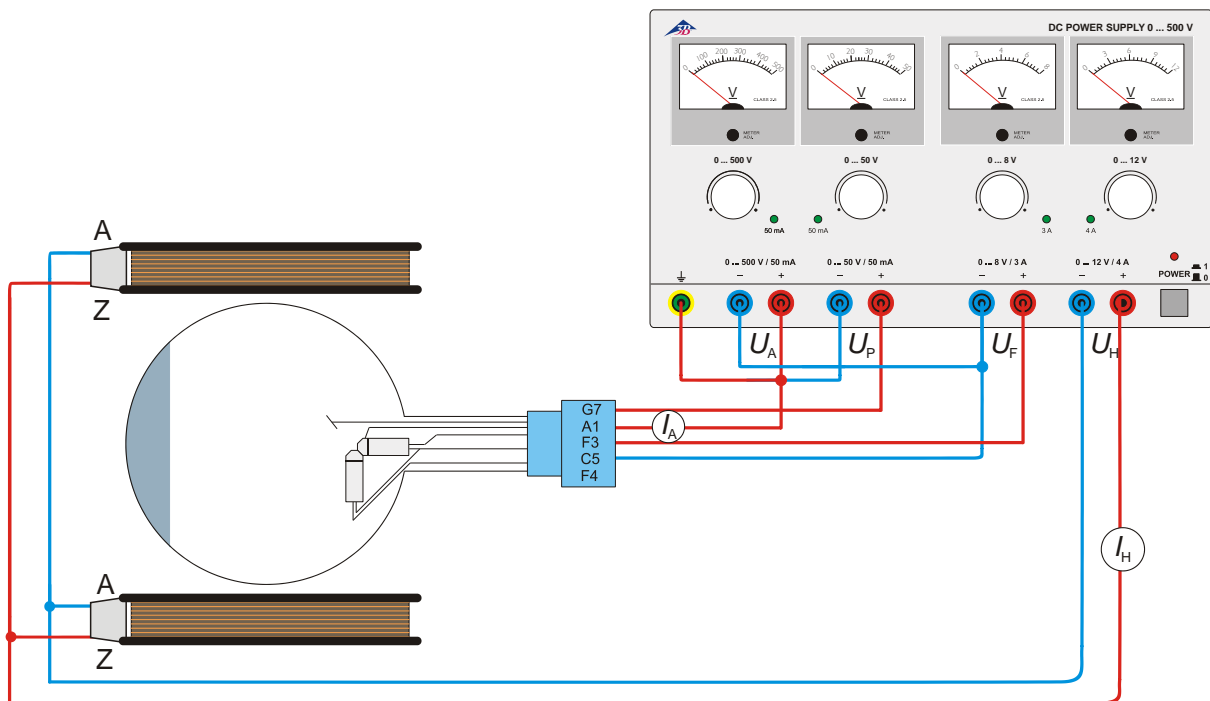

Fig. 3 Determining e/m using the axial electron gun
- Connect up the tube as in Fig. 3.